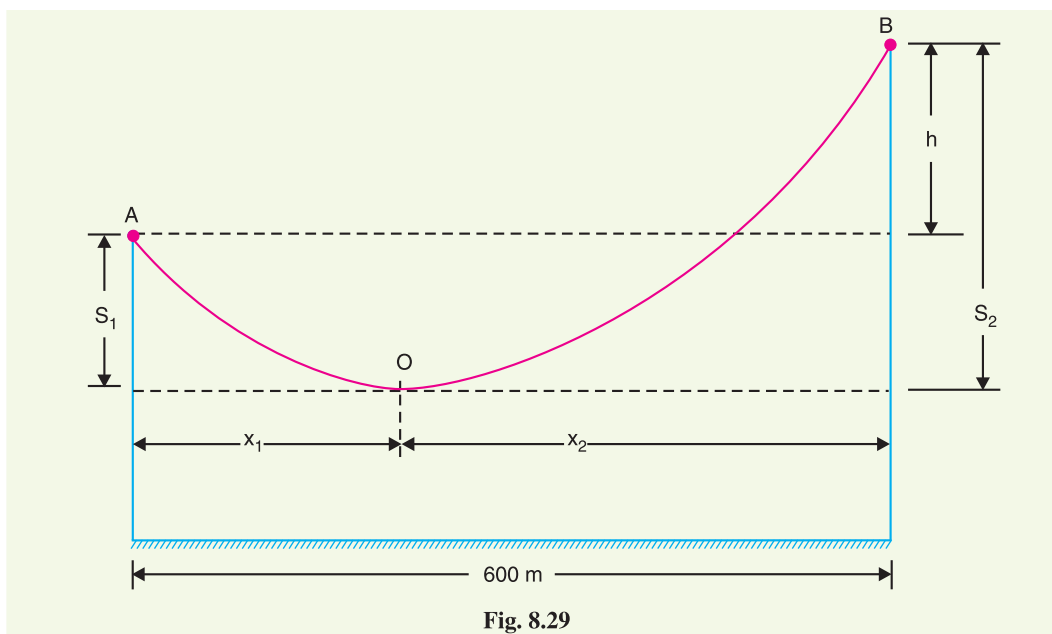

Fig. 8.29
**Solution.** Fig. 8.29. shows the conductor suspended between two supports at  $A$  and  $B$  at different levels with  $O$  as the lowest point on the conductor.